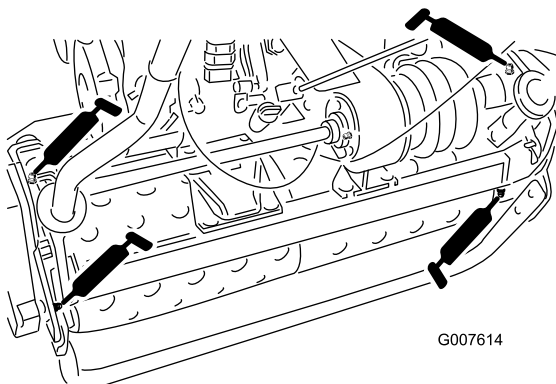

Figure 15
- 2 on the drum axles (Figure 15)
- 3 on the differential (Figure 15)